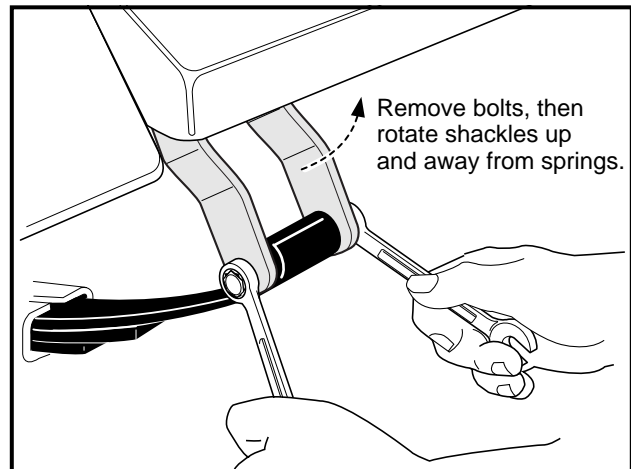

Figure 16-24 Rear Shackles
10. Remove the bolts that secure the leaf springs to the shackles (**Figure 16-24, Page 16-11**).